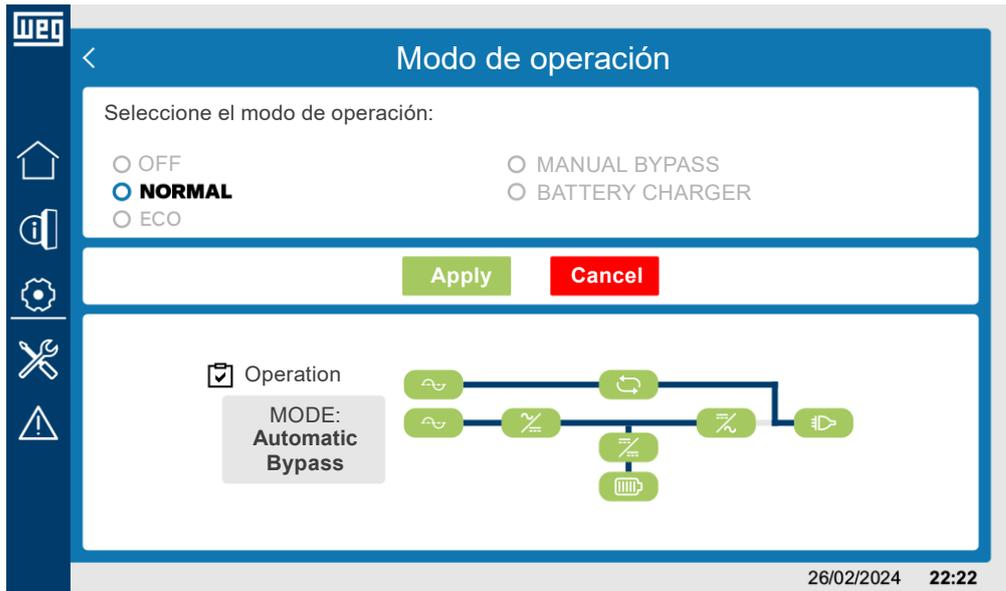

Figure 6.30: Synoptic diagram in normal operating mode powered by the bypass (automatic bypass mode)
- ECO mode: Figure 6.30 on page 6-22.